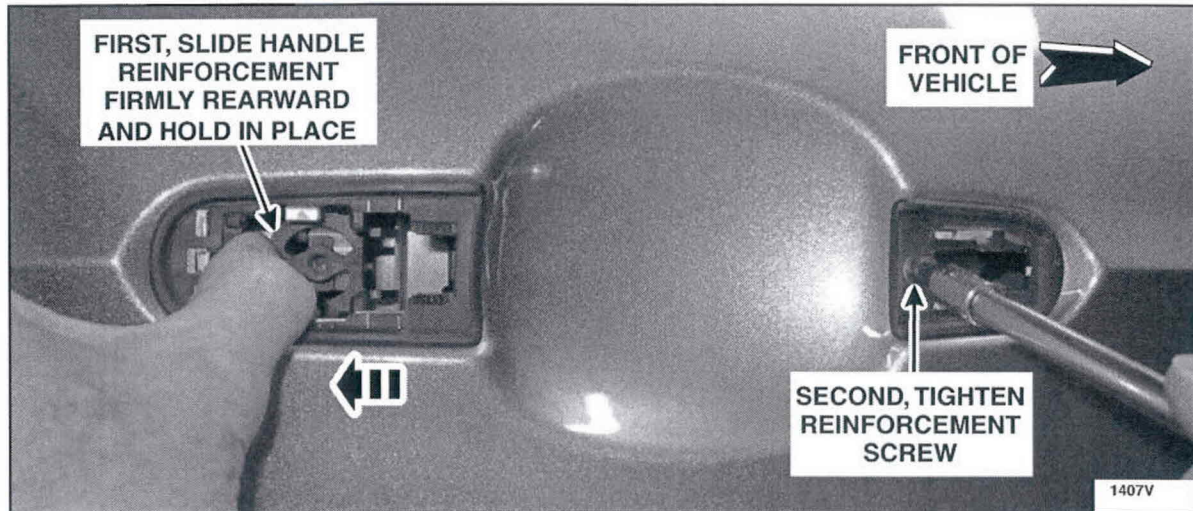

FIGURE 9
5. Slide the door handle reinforcement rearward as far as possible. Apply force to hold in place while tightening the door handle reinforcement screw to 1.9 Nm (17 lb-in). See Figure 9.